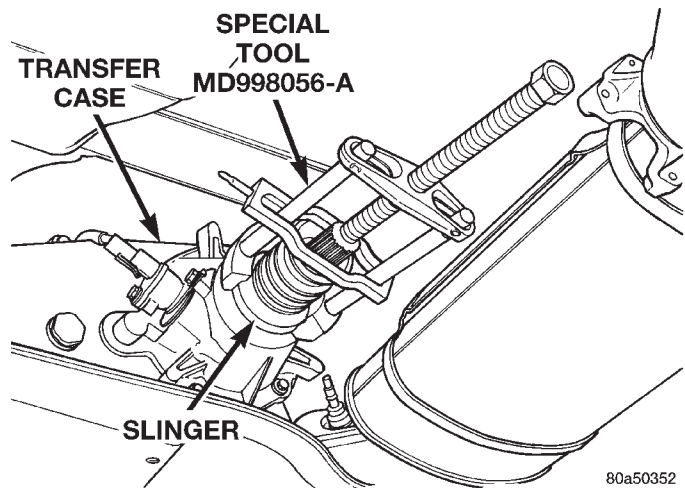

Fig. 6 Rear Slinger Removal
(2) Using puller MD-998056-A, remove rear slinger (Fig. 6).